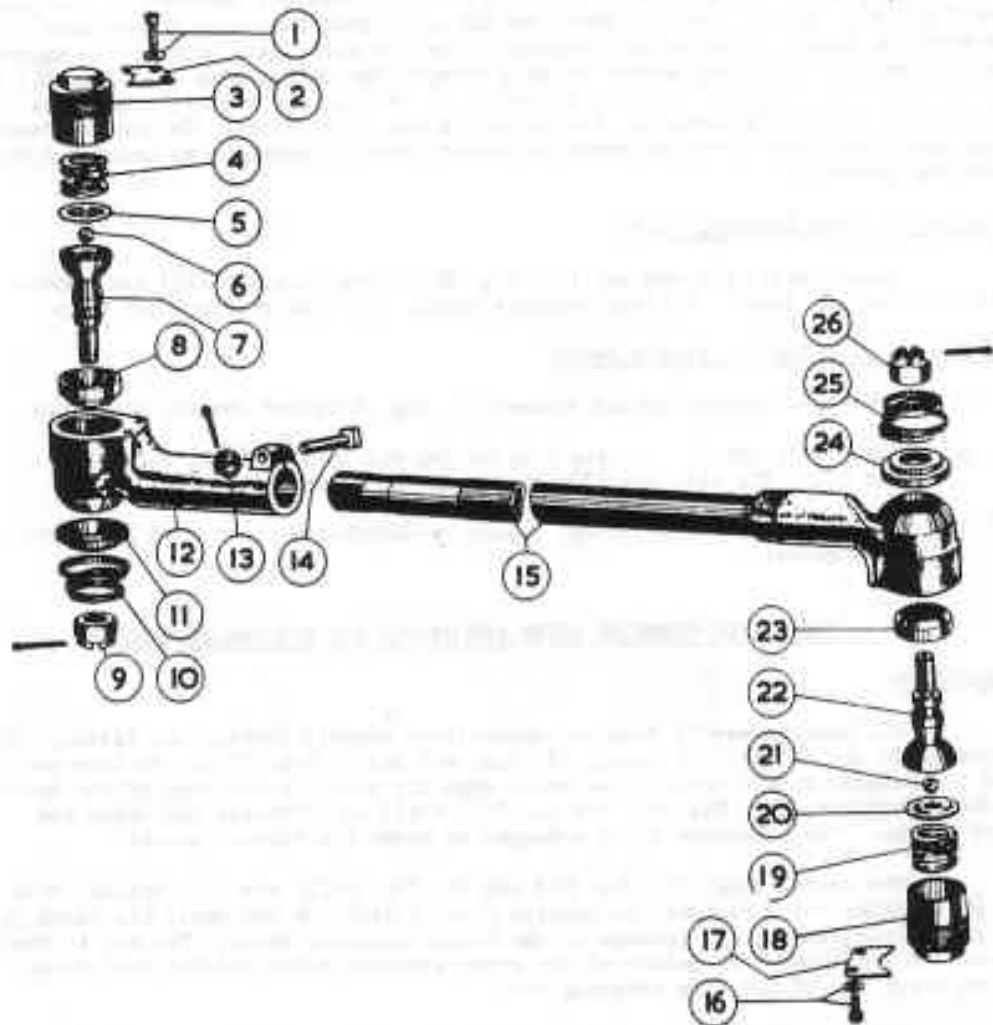

FIG. H10. CROSS STEERING TUBE, "EXPLODED" VIEW.
Remove split pin and nut (26, Fig. H10) from ball pin (22) and remove ball pin from the lever. Collect pressure spring (25) and sealing disc (24).
- (i) Remove setscrews, spring washers (1, Fig. H10) and locking plate (2).
- (ii) Remove cap nut (3), spring (4), spring pad (5), ball (6) and ball pin (7). The ball pad (8) can be removed if necessary.